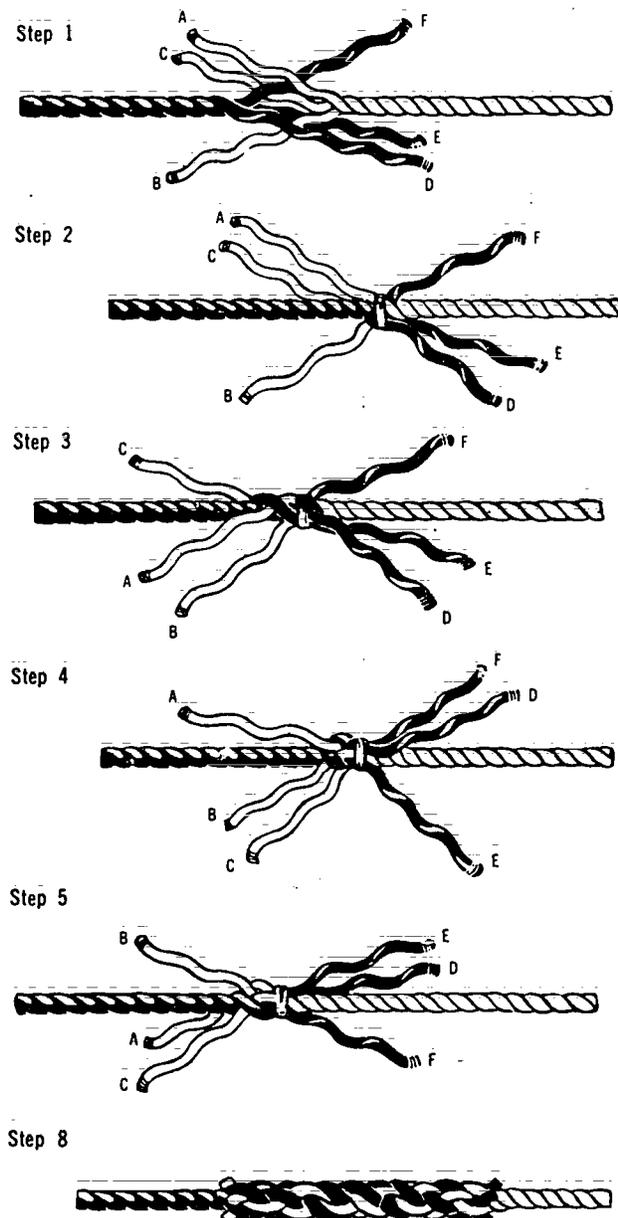

Figure 7-32. Making a Short Splice
- Step 1. Unlay the strands at end of each rope for six or eight turns. Whip the ends of the strands to prevent their untwisting, and bring together so that each strand of one rope alternates with a strand of the other (Figure 7-32, Step 1).
- Step 2. Bring the ends tightly together and apply a temporary seizing where they join (Figure 7-32, Step 2).
- Step 3. Take any one strand and begin tucking, the sequence being over one and under one. Figure 7-32, Step 3, shows how Strand A is passed over the strand nearest to it, which is Strand D, and then under the next strand, Strand E:
- Step 4. Rotate the splice away from you one-third of a turn and make the second tuck; Strand B is passed over Strand E and then under Strand F (Figure 7-32, Step 4).
- Step 5. Before making the third tuck, rotate the splice again one-third of a turn away from you. Strand C is then passed over Strand F, and under the next one, Strand D. The splice now appears as in Figure 7-32, Step 5.
- Step 8. When tucking is finished, remove the centre seizing and cut off the ends of all strands, leaving at least 3/4" on each end. To give a smooth appearance, roll the splice back and forth, either under your foot or between two boards. The completed Short Splice should lock something like the illustration in Figure 7-32, Step 8.